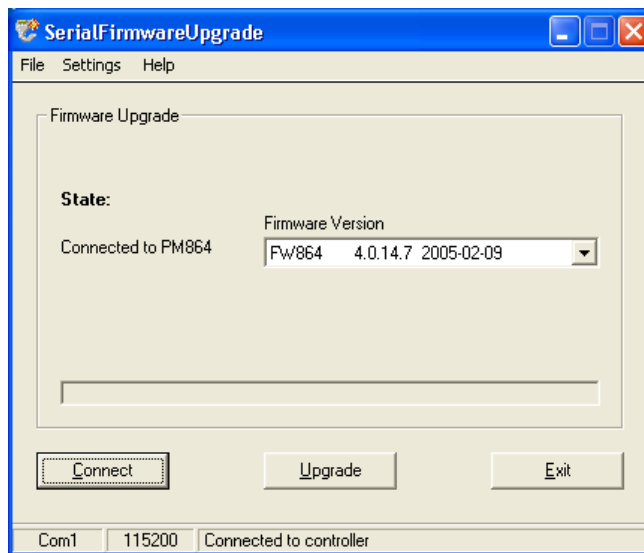

Figure 51. A Firmware version displayed in the text field.
- Click the **Connect** button and press the **Init** push-button on the PLC until the **Run LED** starts to blink. Wait about a minute until a message appears. If connection was successful, a confirmation text will occur in the Firmware Version text field (Figure 51).